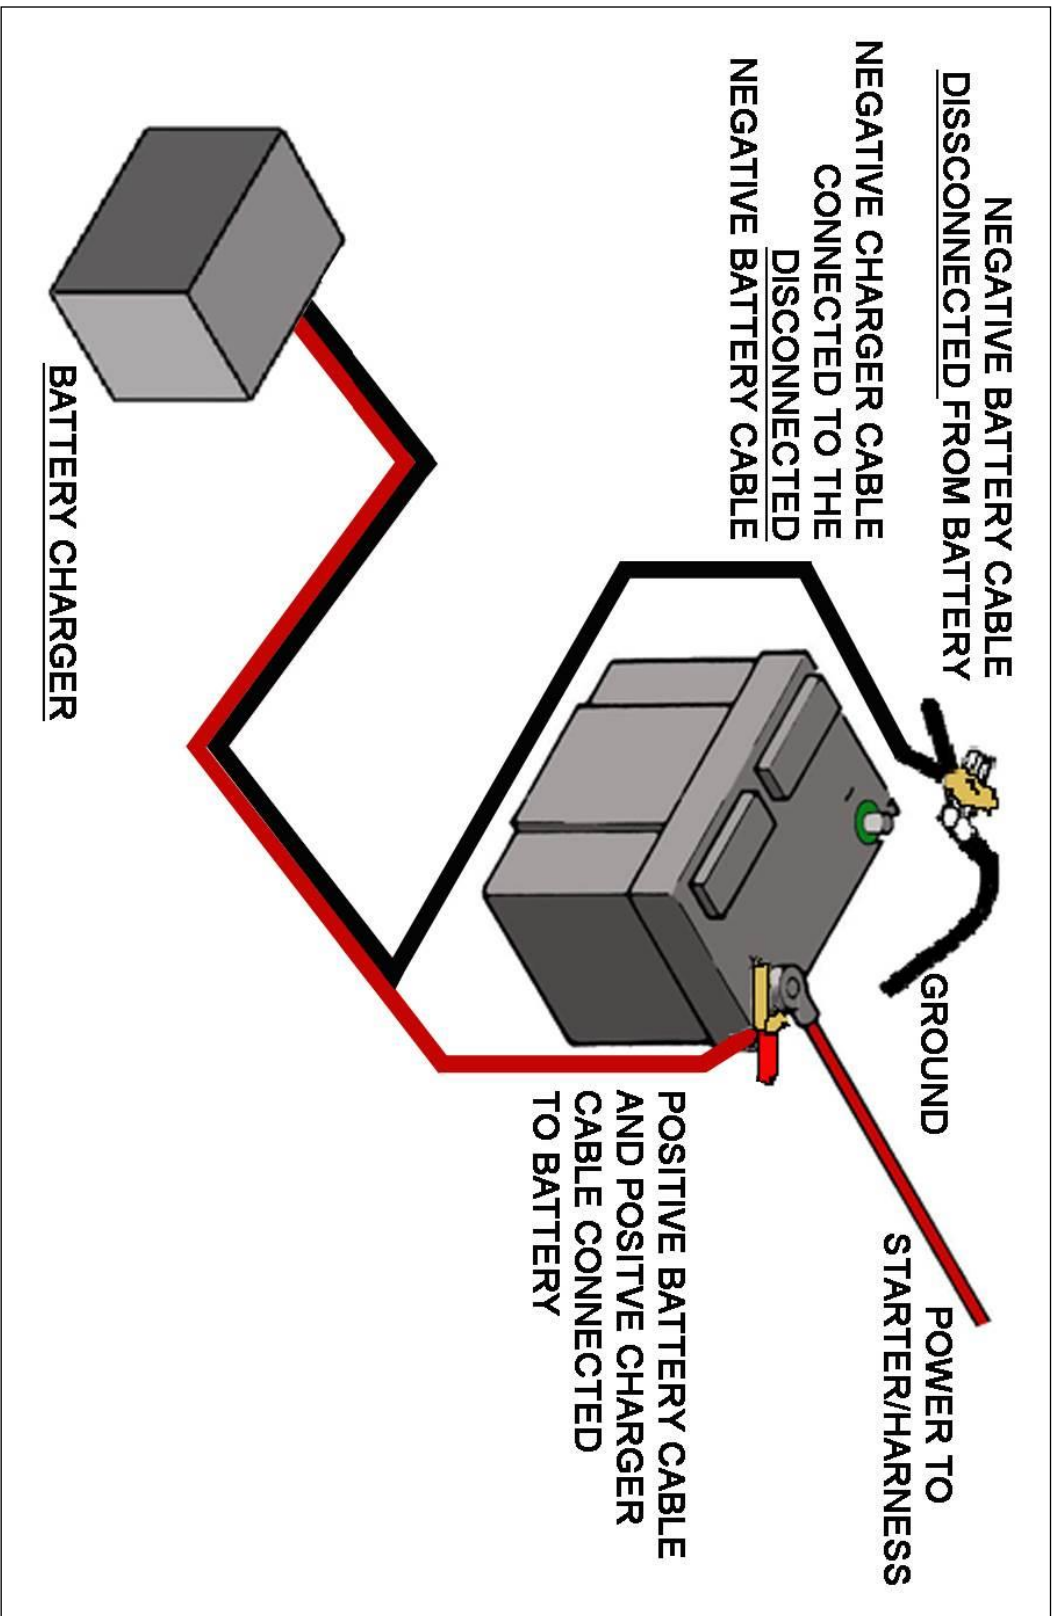

Fig. 211
As shown in Fig. 211 on the next page, use a small (10-amp or less) battery charger to power up the vehicle for the first time to test the circuits. If there is a problem anywhere, the battery charger's low amperage and internal circuit breaker provide circuit protection.
- Connect the **Battery Charger's POSITIVE** cable to the automobile's positive battery terminal lug (see Fig. 211).